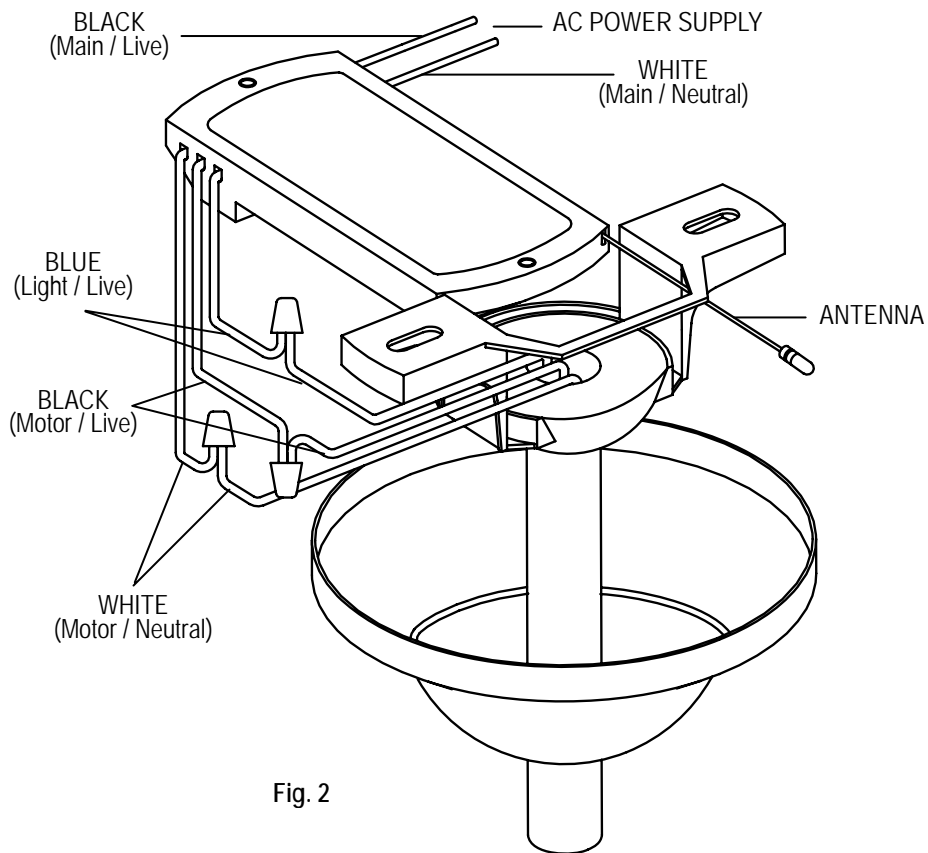

Fig. 2
3. Make wiring connections per Fig.2 & 3. **CAUTION:** Incorrect wire connection can damage this receiver and could cause injury or fire.